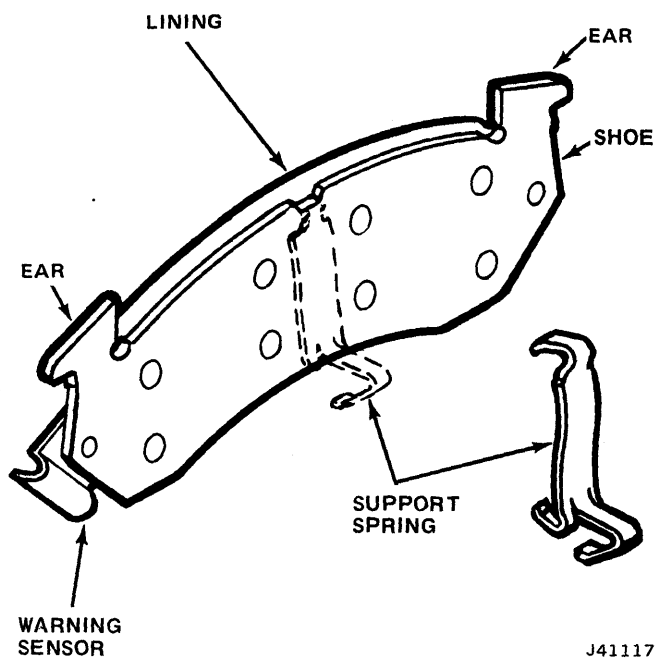

Fig. 9-30 Support Spring Installation
(11) Install sleeves in inboard mounting ears. Position sleeves so that sleeve end facing shoe and lining is flush with machined surface of mounting ear.
(12) Install support spring on inboard shoe. Place single tang end of spring over notch in shoe (fig. 9-30).